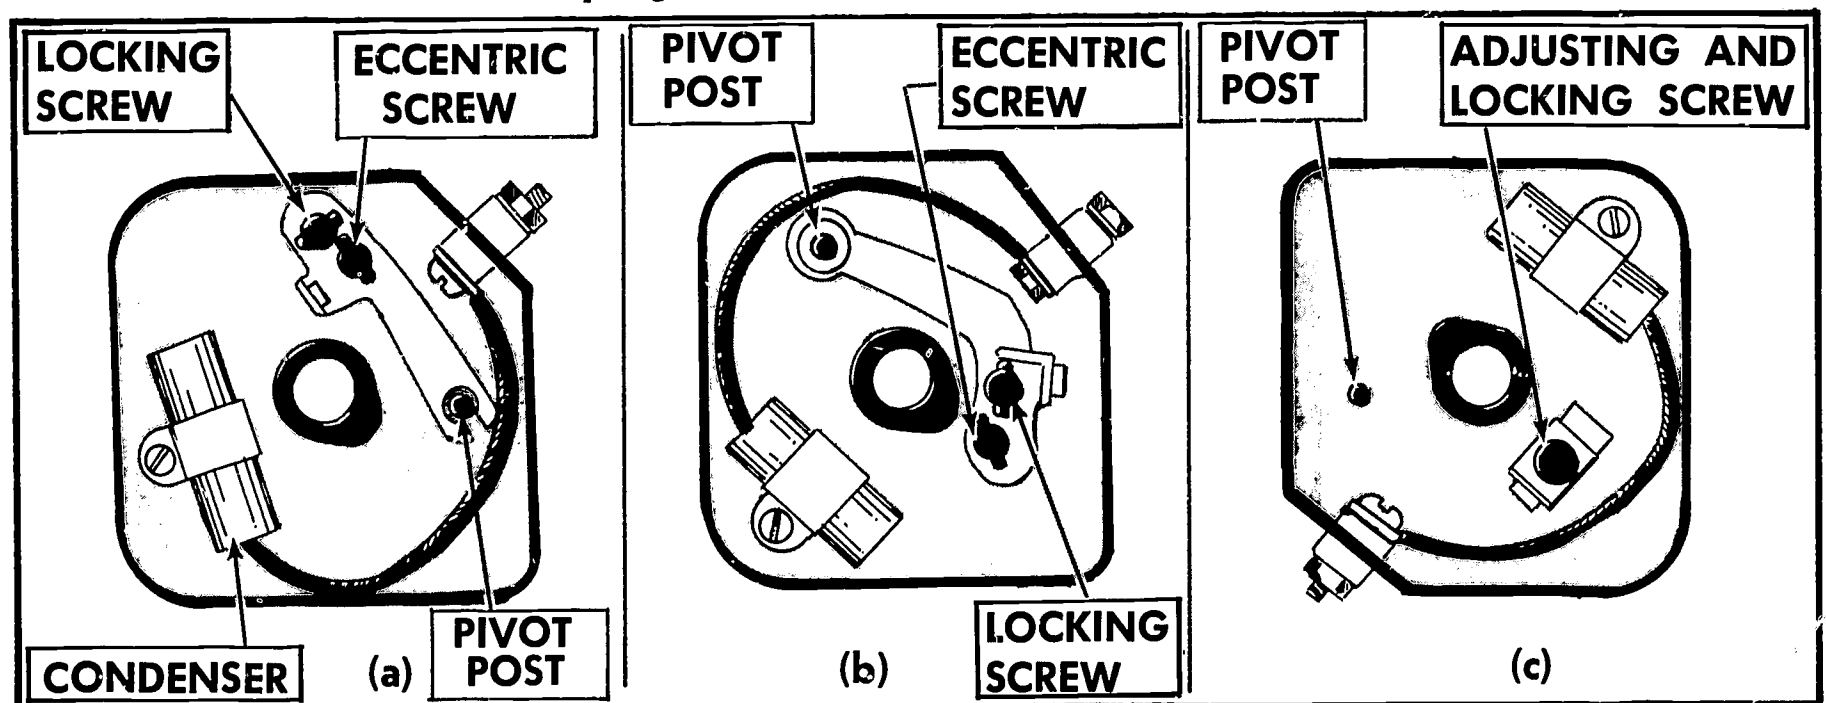

FIGURE 106. (a) and (b) Stationary breaker point and bracket are removed by loosening the locking screw and lifting out the bracket. The adjusting or eccentric
3. *Loosen locking screw on bracket that provides for the point adjustment (Figure 106).*
3. *Remove stationary breaker point and bracket (Figure 106).*